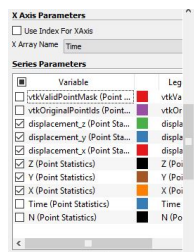

Figure 9: Select values
Step 8 Select values.(Figure.9)